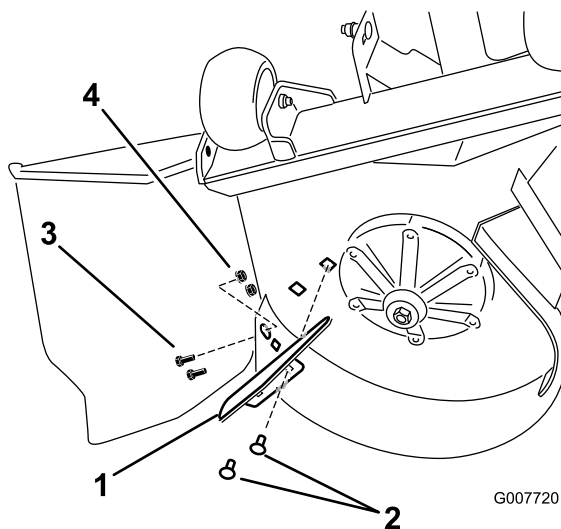

Figure 23
5. Locate the discharge baffle in loose parts. Install the discharge baffle to the under side of the deck as shown in Figure 23.